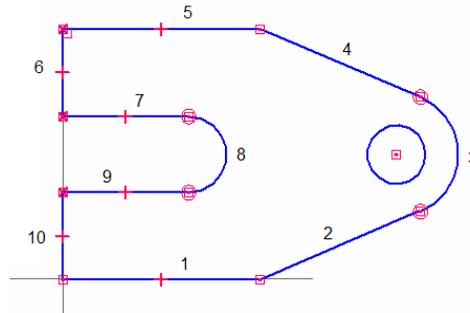

Figure 3-42 Profile after drawing all entities
- d. Draw the required profile by using the **Line** and **Circle by Center Point** tools, refer to Figure 3-42.
Now, draw the circle by using the **Circle by Center Point** tool while drawing the circle, if the center point of the arc is not displayed, then move the cursor over the arc to display its center point. Use this center point to define the center point of the circle. The profile after drawing all entities is shown in Figure 3-42. For your reference, the entities in the sketch are indicated by numbers.